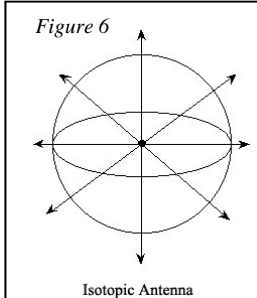

Figure 6
2. Outer Ring dBi – The power ratio of our dipole's maximum lobes compared to that of an isotropic antenna. So, what is an isotropic antenna? An isotropic antenna is a point in space that radiates power equally in all directions. See Figure 6. A real antenna normally radiates more energy in some directions and less in other directions.